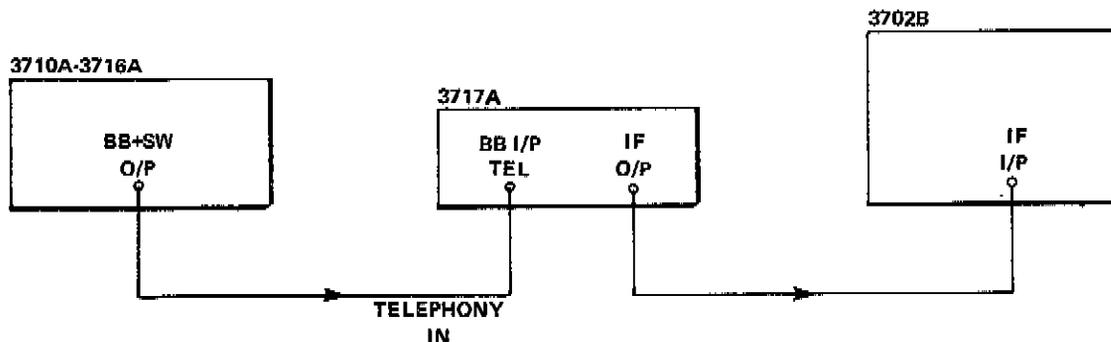

Figure 5-12 Telephony Sensitivity Setup
7. Connect the equipment as shown in Figure 5-12. Set the controls as follows: